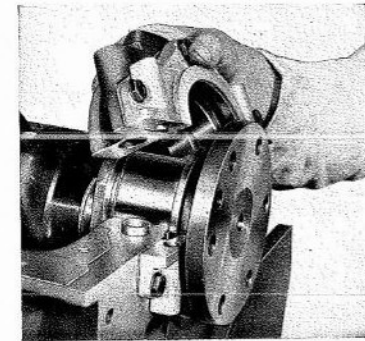

Fig. L.7.
1. Remove the rear main bearing cap and remove the lower half thrust washers from the cap. See Fig. L.7.
5. Replace and secure the rear main bearing cap. See Fig. L.7.